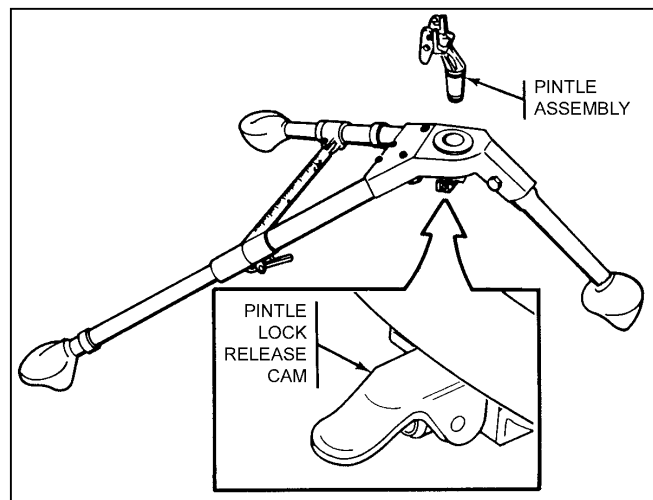

Figure 2-19. M122 tripod.
(2) To set up the tripod, the gunner unfolds the front leg and spreads the rear legs until the leg lock engages. He inserts the pintle assembly and rotates the pintle lock release cam to lock (Figure 2-19).